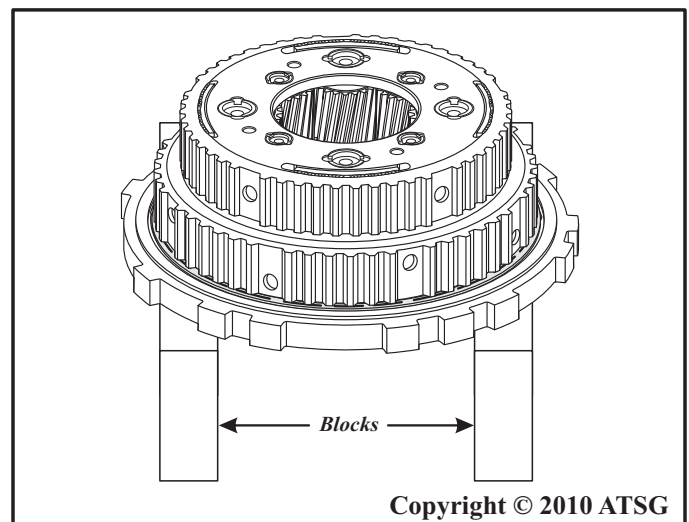

Figure 131
7. Turn the rear carrier assembly over and place on a set of appropriate blocks with front side facing down, as shown in Figure 131.